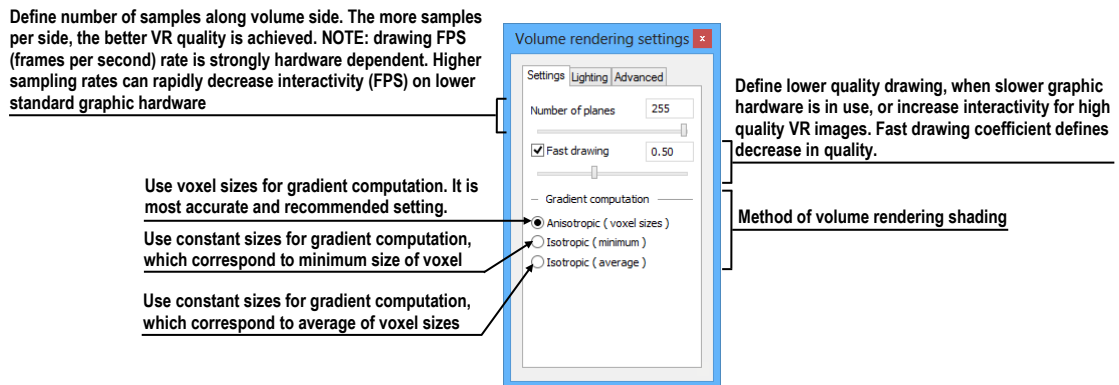

Figure 312 - Volume rendering settings, the first tab
- basic volume rendering quality on the first tab (see Figure 312)